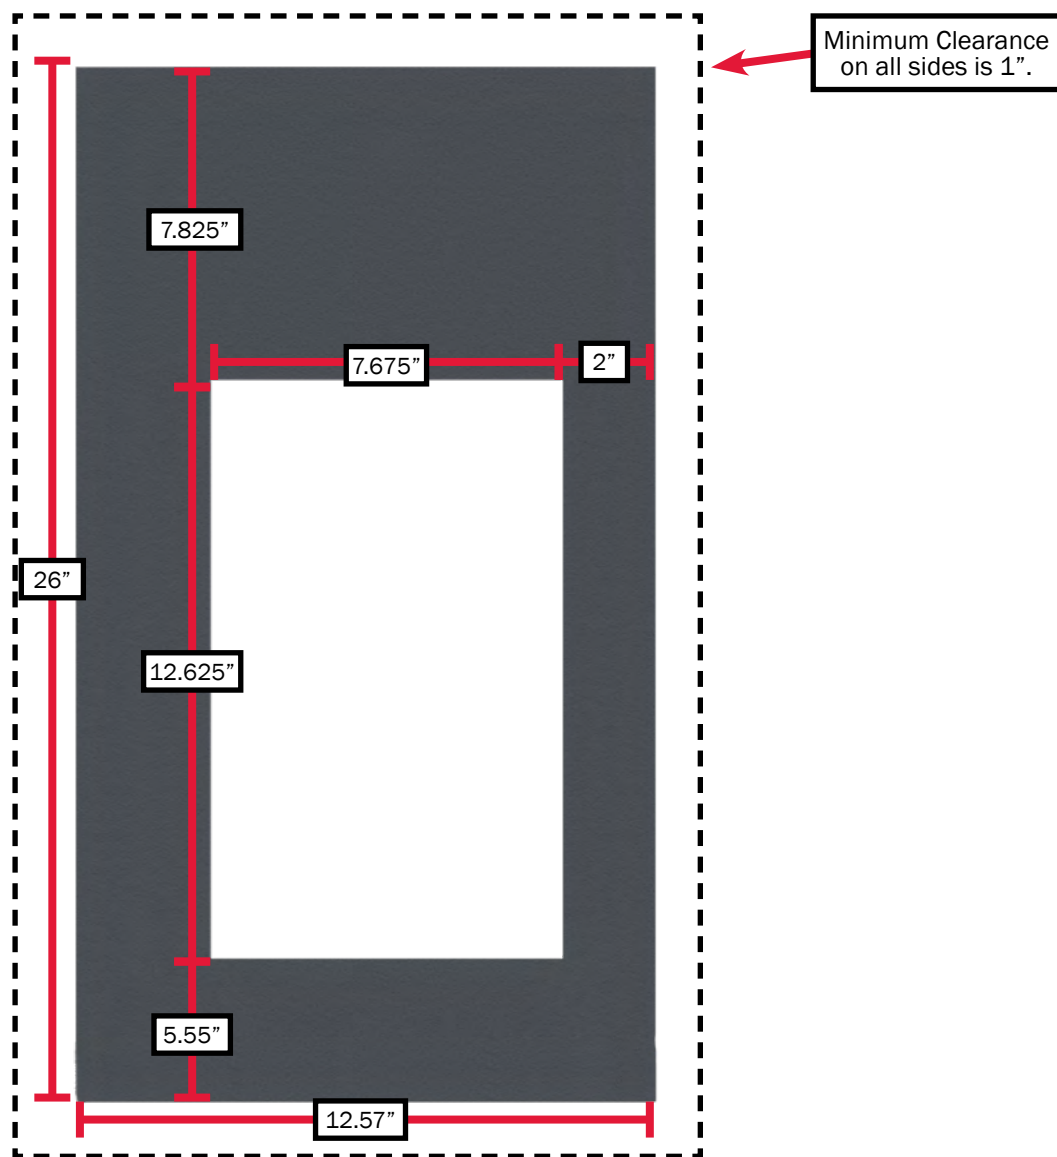

Figure 4
2. Cut out the required mounting flange opening Reference Figure 4.
- Floor cutout information Figure 4.
NOTE: The mounting flange of the Aqua-Hot is not centered on the body of the heater. Reference Figure 4 for the correct dimensions to construct the surface on which the Aqua-Hot will be mounted.